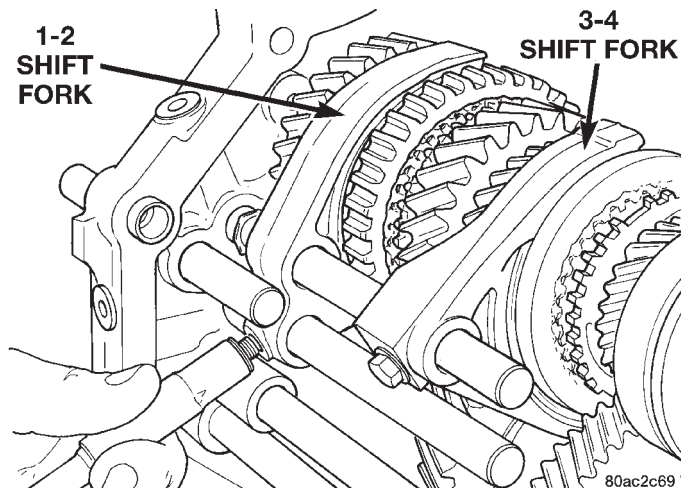

Fig. 87 Install Shift Fork Bolts
(25) Install snap-rings onto the rear mainshaft and countershaft bearings.
(26) Install the bolts to hold the reverse shift arm bracket to the intermediate plate.
(27) Install new bolts to hold the shift forks to the shift rails (Fig. 87).